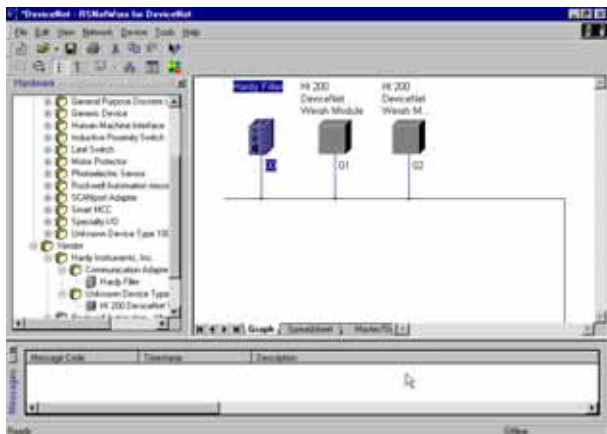

FIG. 126: GRAPH OF NETWORKED MODULES
- Step 1. Double Click on the Hardy Filler Icon. (See Fig. 126) The Hardy Filler Property List appears. (See Fig. 127) In Properties, you construct the Scanlist, which includes the devices that will be scanned on the network.